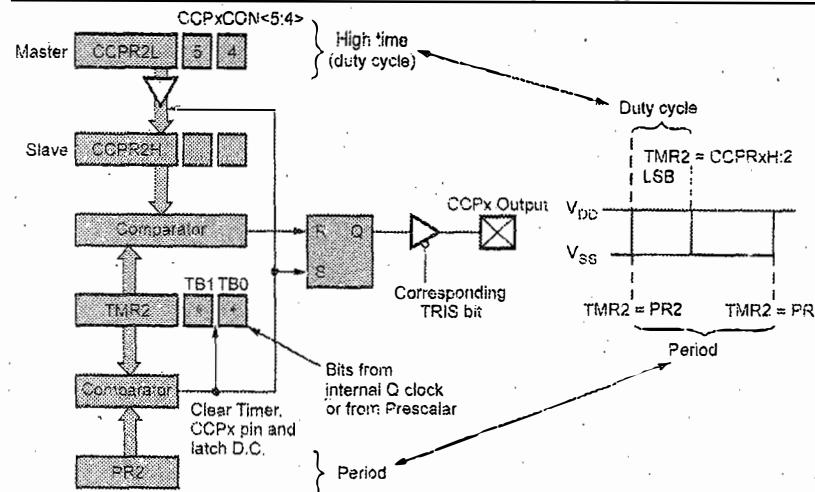

Fig. Q.19.1 PWM Mode
- CCP in PWM mode uses the timer 2 to generate a pulse wave form for a given frequency/duty cycle. Duty cycle is the key performance measurement factor. It uses the CCPRx and PR2 register. PR2 is an 8-bit period register (PR2) whose value remains fixed. TMR2 increments from 00 to the value equal to PR2, TMR2IF flag from PIR1 reg. is raised and TMR2 reset to 00. The clock source for TMR2 is Fosc/4 for both prescaler and postscaler options. Fig. Q.19.1 shows block diagram for PWM mode. (Refer Q.19.1 on next page)